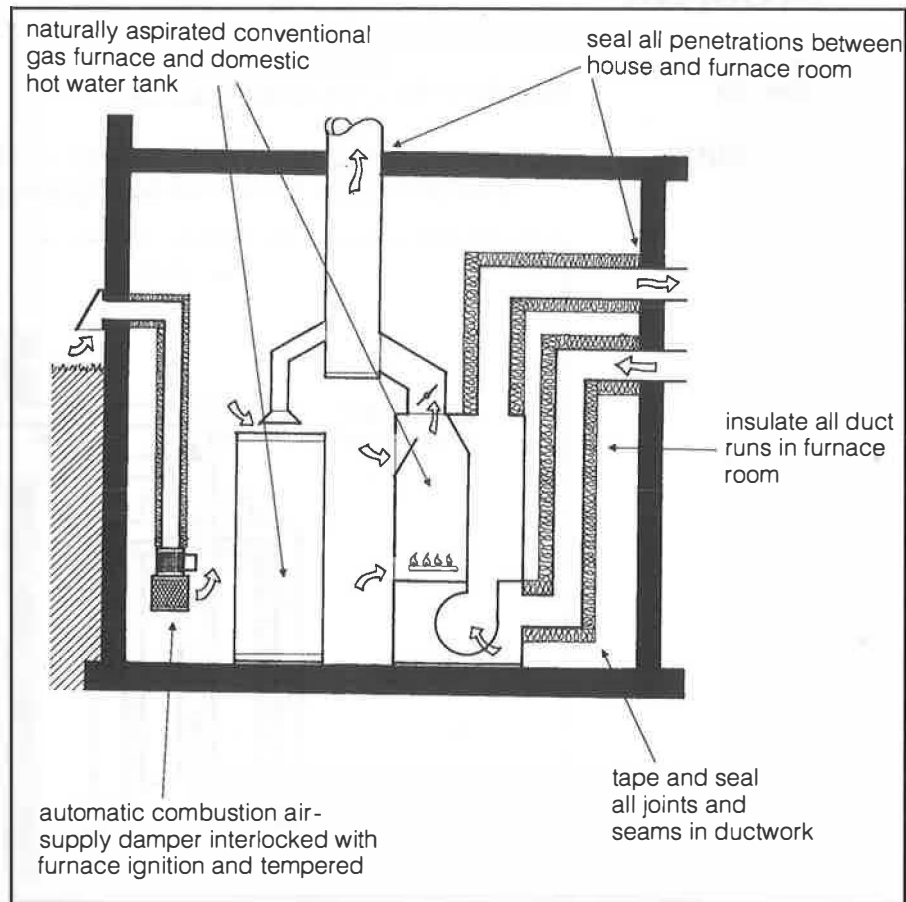

Fig. 11. Isolated furnace room
- Place conventional, naturally aspirating gas furnaces and domestic water heaters outside the house envelope. This is typically done by placing them in an attached insulated garage or isolated furnace room (fig. 11).